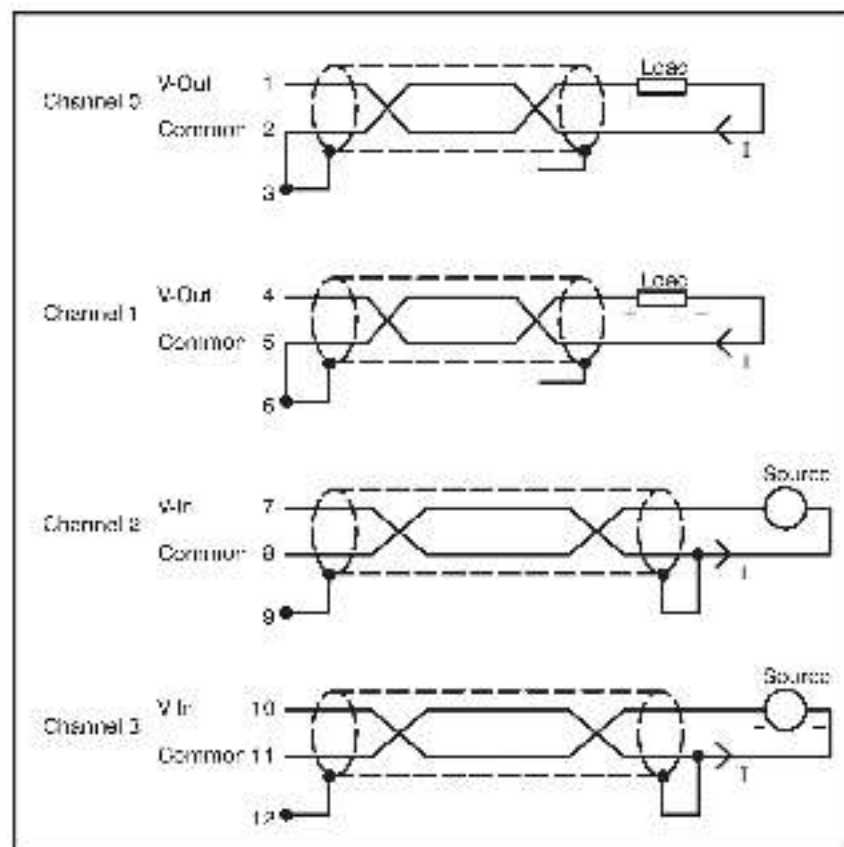

Figure 3.2- Typical Recommended Input and Output Shielding Methods
- Step 10. For the two output channels, connect a shield wire from the external hardware to the third terminal (terminals 3 and 6, respectively). Insert a jumper between terminals 2 and 5, and between 4 and 8. The shield wire at the external hardware end of the cable should be cut short and taped back to prevent any electrical contact. See figure 3.2.
- Step 11. For the two input channels, connect a shield wire from the external hardware to the third terminal (terminals 9 and 12, respectively). The shield wire at the external hardware end of the cable should be connected to the source reference point. See figure 3.2.